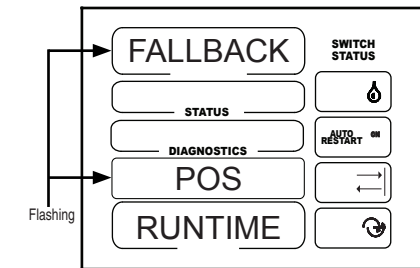

Figure 48-3
1. FALLBACK POS should be flashing. See figure 48-3.